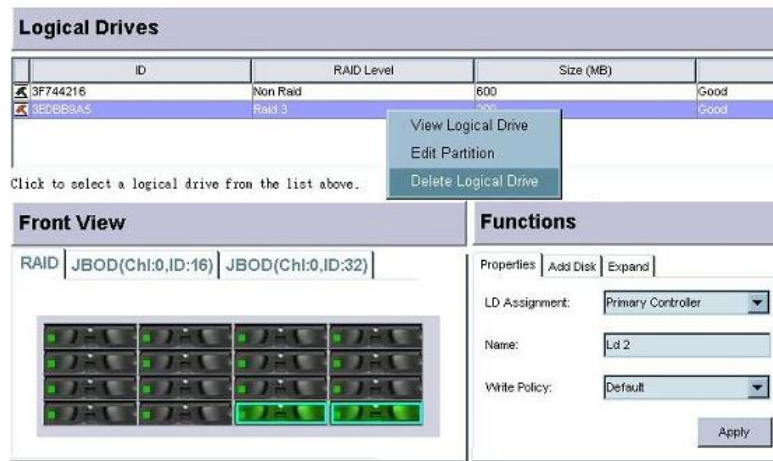

Figure 9-12: Displaying the Logical Drive Command Menu
Step 1. Select the logical drive you wish to remove with a single mouse-click. **Right-click** on the adjacent screen area. A command menu will prompt as shown in *Figure 9-12*.